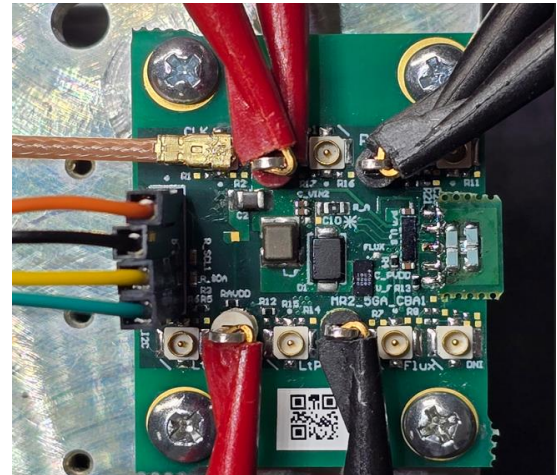

Fig.4 Example of the board connections for I2C programming and powering up (photo from a different EVB)
5. A photo of a different EVB connections for I2C programming and powering up is shown in Fig. 4.
6. Please note, Fig.3 and Fig.4 are examples of a SL2002 EVB. Depending on the power level and load (laser vs resistor), the board you have received may look different than the one shown here.